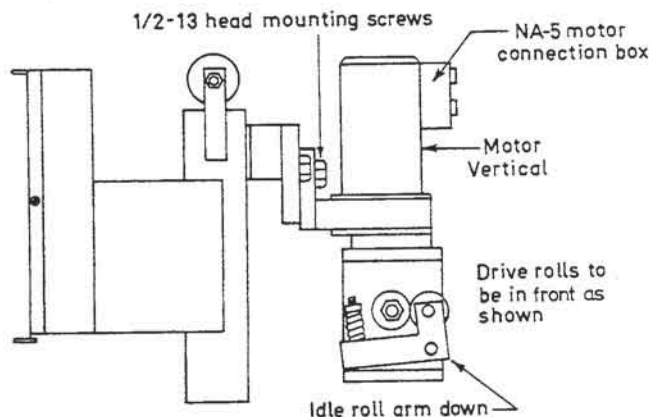

Figure 2
3. Remove the head mounting block from the NA-3, NA-4 or NA-5 head by removing the four allen head cap screws. This part is not used. Mount the head to the Spreadarc using the two 1/2-13 x 1 hex head screws, washers and lockwashers supplied with the Spreadarc through the two large holes in the head mounting pad. The drive motor is to be in the vertical position and the drive rolls are to face the front. Loosen the head face plate and rotate the face plate so that the idle roll arm is *down*. Install the nozzle, wire straightener and flux hopper (if used) per the NA-3, NA-4 or NA-5 operating manual (see Figure 2).